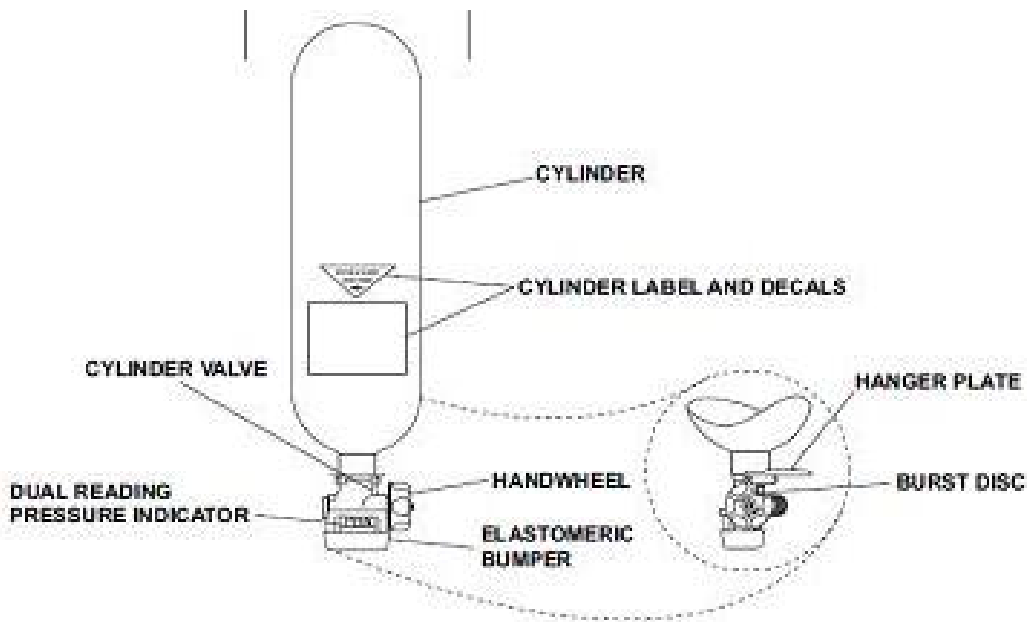

Figure 551-8ST-1004\_03 (Cylinder Assembly)
- (1) Verify that the glass on the remote pressure indicator is not cracked or broken.
- (2) Verify that the needle is present and not bent.
- (3) Verify that the high-pressure hose is securely attached to the remote pressure indicator.
- (4) The remote pressure indicator is not ready or available for use if:
- b. Check the cylinder assembly before use. (Figure 551-8ST-1004\_03)